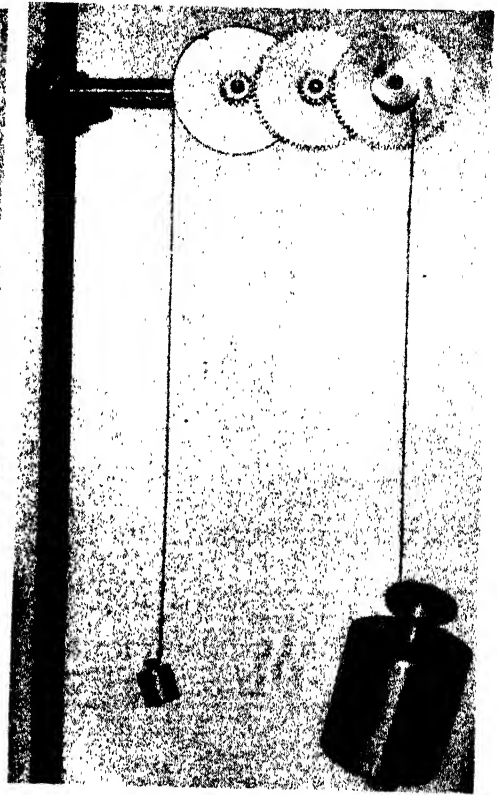

FIG. 134. TRAIN OF GEARS.
Set up the train of gears as shown in Fig. 134. Place a weight R (500 g.) on the axle and adjust the effort E by adding weights until the resistance R moves upward at a uniform speed when the effort is given a start. Record as $(E + f)$. Remove weights from E until R moves uniformly
- Calculate the ideal M. A. of the entire machine (Fig. 134).